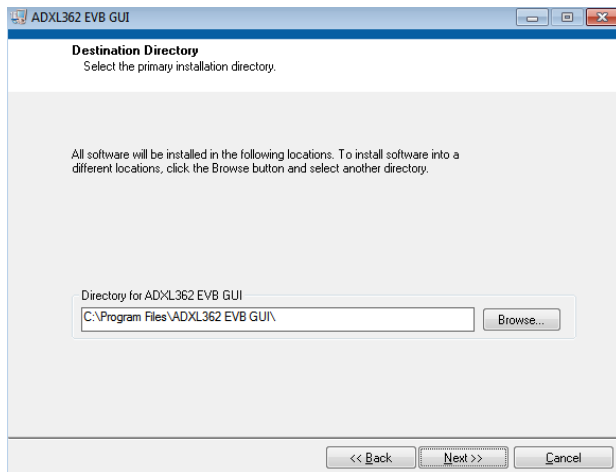

Figure 11. ADXL362 EVB GUI Destination Directory Selection
1. Select the destination directory. The installer autopopulates the names of the directories in which to store the software GUI and required National Instruments products (see Figure 11). You can change these directories; however, most installations can proceed with the default values.